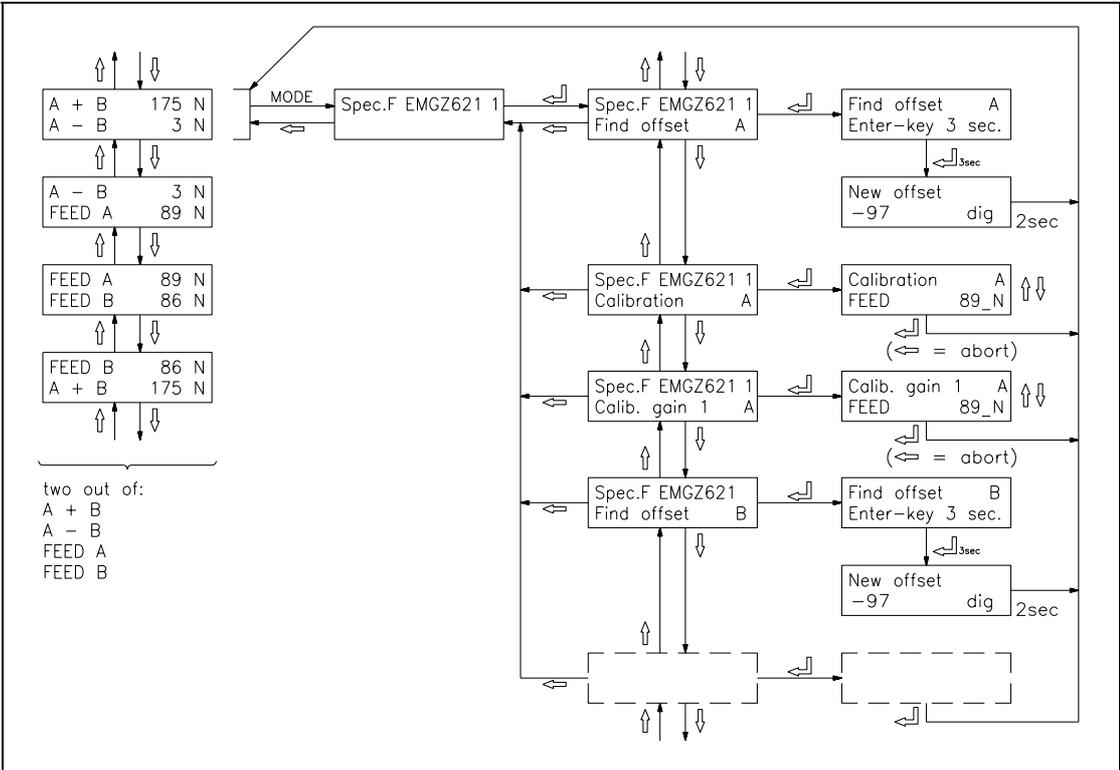

fig. 8: Main operating menu EMGZ621A
- Press MODE key. Search and select the module *Spec.F EMGZ621A 1* and the special function *Find offset A* with the  $\uparrow \downarrow \leftarrow$  keys (fig. 8).
- Find offset for channel A by pressing the  $\leftarrow$  key for 3 seconds (fig. 8). The electronic unit calculates automatically the new offset value for channel A. The display will return to the main operating menu.
- Repeat the procedure written above with special function *Find offset B* (fig. 8). The electronic unit calculates automatically the new offset value for channel B. The display will return to the main operating menu.
- Press MODE key. Search and select the module *Spec.F EMGZ621A 1* and the special function *Calibration A* with the  $\uparrow \downarrow \leftarrow$  keys (fig. 8).
- Set the force referring to **half of the applied weight** into the display with the  $\uparrow \downarrow$  keys and confirm with  $\leftarrow$  key (fig. 8). The electronic unit calculates automatically the new gain A value. The display will return to the main operating menu.
- Repeat the procedure written above with special function *Calibration B* (fig. 8). The electronic unit calculates automatically the new gain B value. The display will return to the main operating menu.